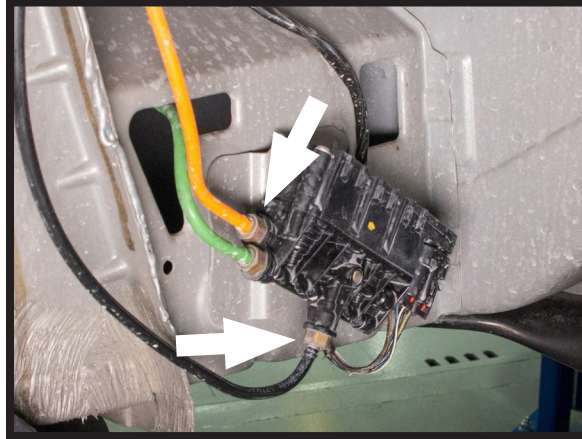

FIGURE 2
5. WITH THE WHEEL WELL LINER REMOVED YOU ARE ABLE TO ACCESS THE FRONT VALVE BLOCK LOCATED AT THE REAR OF THE WHEEL WELL. SLOWLY RELEASE THE AIR PRESSURE FROM THE FRONT STRUTS BY LOOSENING THE ORANGE AND BLACK AIR HOSES. (FIGURE 2)